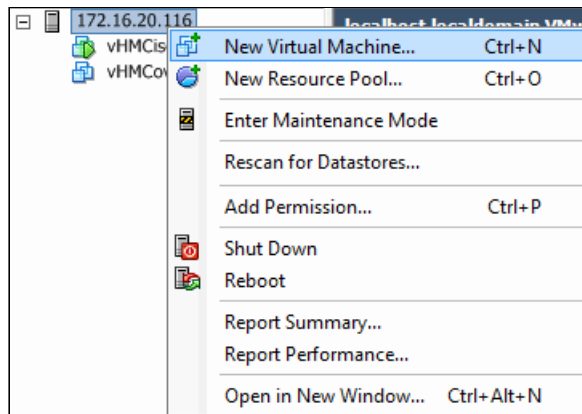

Figure 3-3 Create a new VM in vSphere
1. From the main vSphere panel, press Ctrl+N, or right-click **New Virtual Machine** (Figure 3-3).